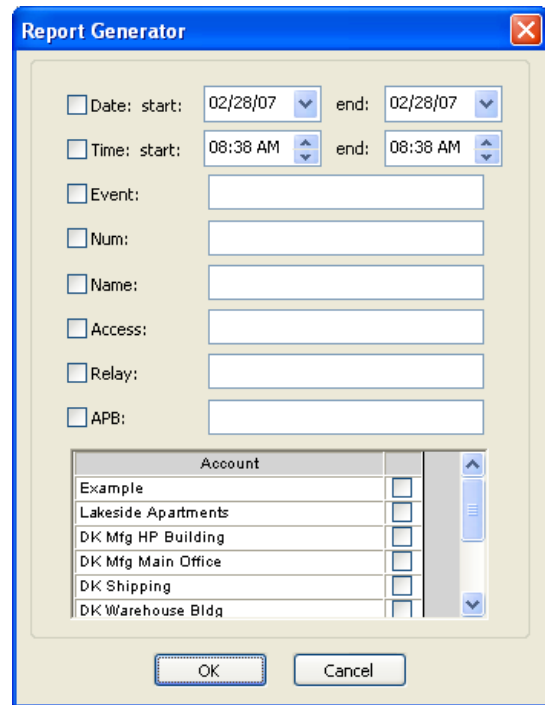

Figure 61
1. After the transaction file is opened and displayed on your screen, click the REPORT button in the tool bar. The report generator window will appear in the transaction screen (Fig 61).